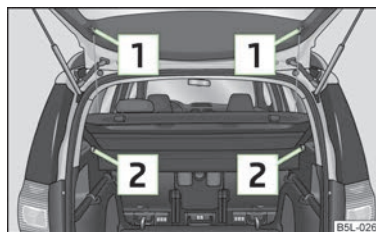

Fig. 59
- Unhook the support straps **1** » Fig. 59.